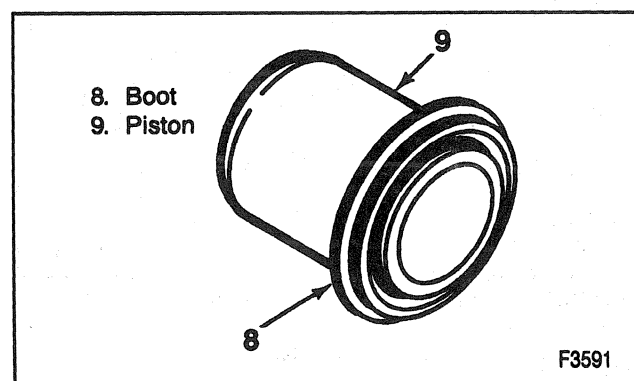

Figure 31—Installing the Boot on the Piston
2. Piston seal (10).
3. Boot (8) on piston (9) (Figure 31).
4. Piston (9) and boot into caliper bore.
- B. Seat boot in housing using J 36474, J 36475, or J 38453 (Figure 31).
5. Bleeder valve (11).